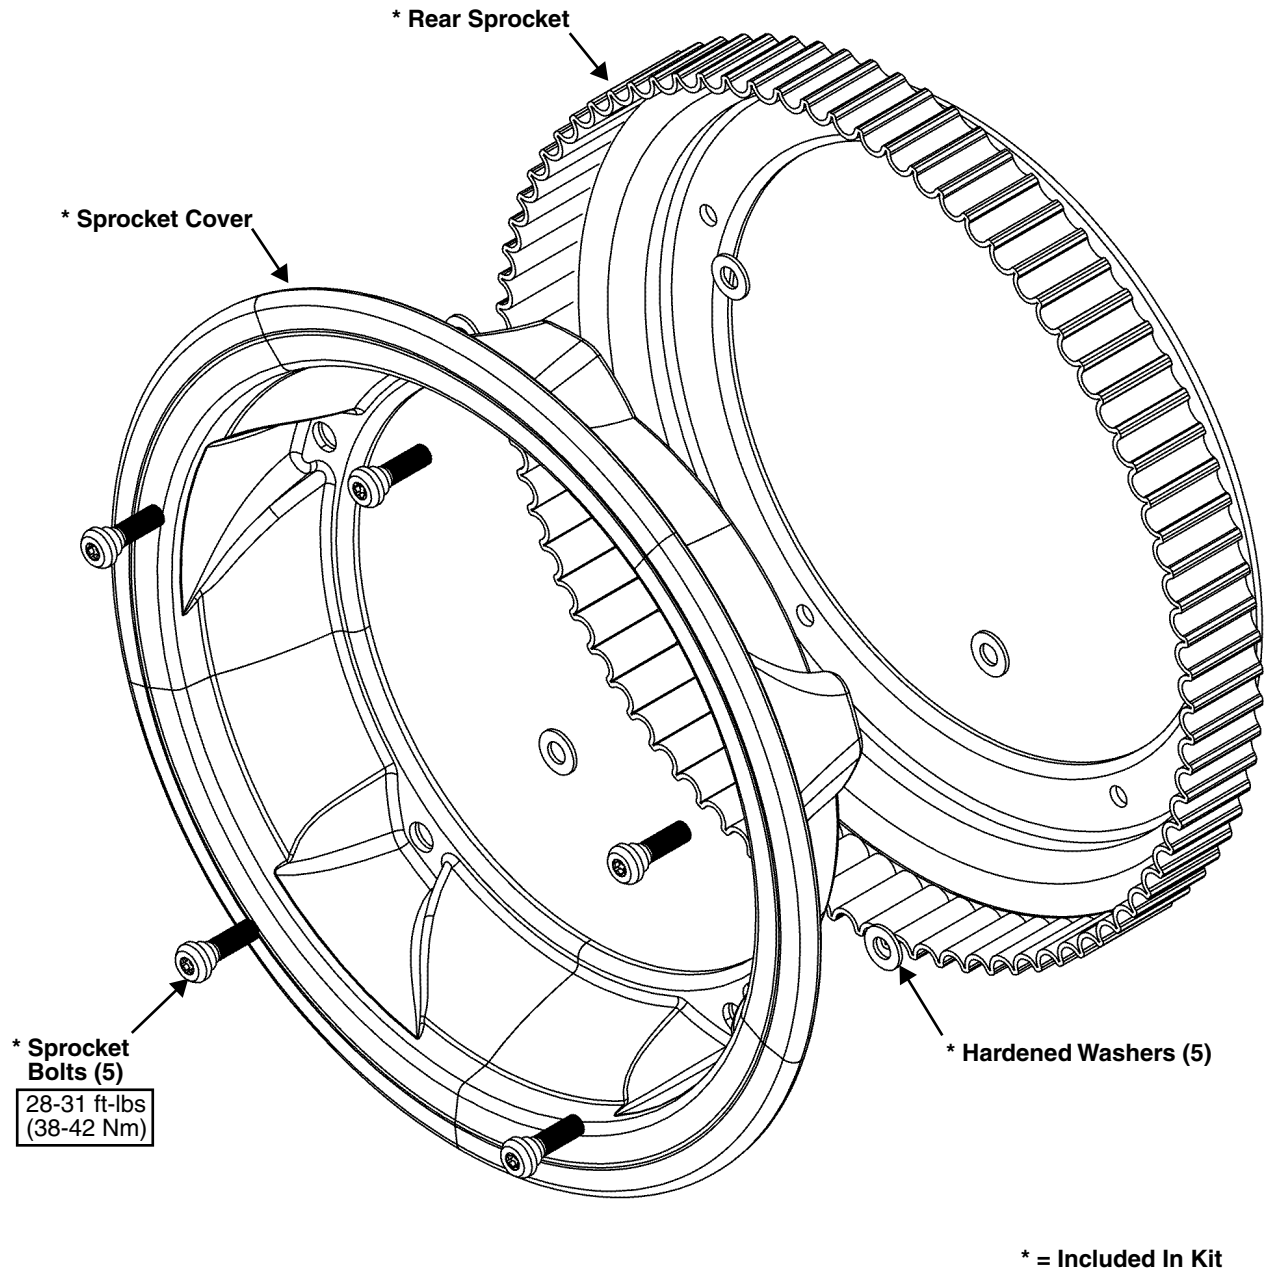

Figure 3. Rear Sprocket Assembly
23. See Figure 3. Place **new** hardened washers on sprocket.